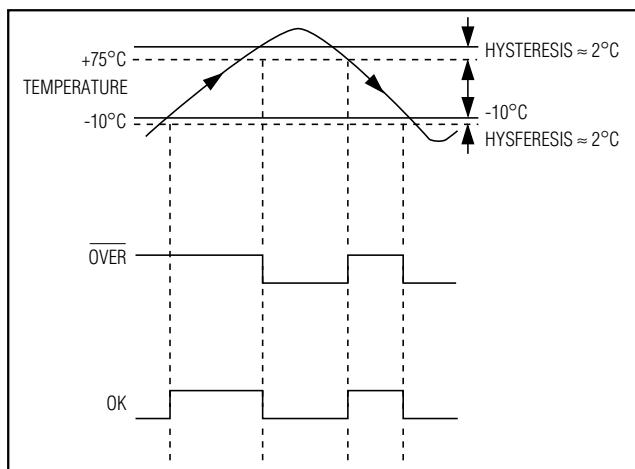

Figure 2. Temperature Response—MAX6507A04B Outputs with 2°C Hysteresis
The MAX6507/MAX6508 have two factory-programmed threshold temperatures (T_{OVER} and T_{UNDER}) and two outputs (OK and OVER). One output (OK) asserts when the temperature is between T_{OVER} and T_{UNDER} . The other output (OVER) asserts when the temperature is above T_{OVER} . Table 4 shows the hex codes to determine the part numbers associated with specific values of T_{OVER} and T_{UNDER} . The first hex code indicates the lower trip point (T_{UNDER}) and the second indicates the higher trip point (T_{OVER}). For example, a part with $T_{UNDER} = -10^{\circ}\text{C}$ and $T_{OVER} = +75^{\circ}\text{C}$ will have the part number MAX6508UTA04B (Table 4 and Figure 2). MAX6507 has open-drain outputs; MAX6508 has push-pull outputs.